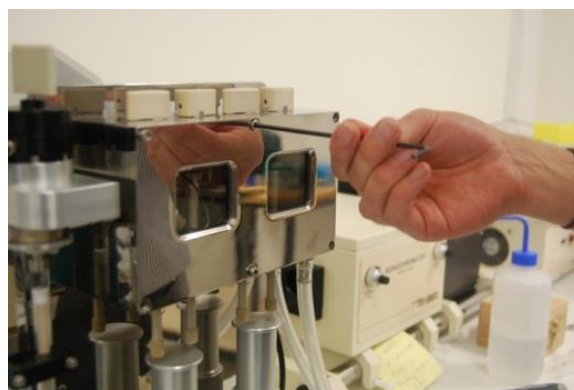

Figure 3.2 - Removing the water bath front panel
3. When the water has drained away, remove the six screws on the front face of the water bath to remove the front panel (Figure 3.2). Make sure the X-ring does not fall out of the sample-handling unit as the front panel is removed.